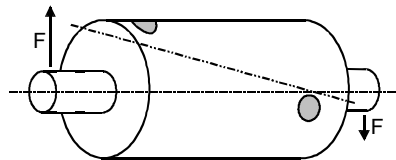

Figure 66: Dynamic balance
**Dynamic balance** occurs when the rotor axis and the mass axis are not congruent and when both axes intersect outside the center of mass. This case is also called two-plane unbalance. Dynamic balance is a combination of static and moment balance (Figure 66).